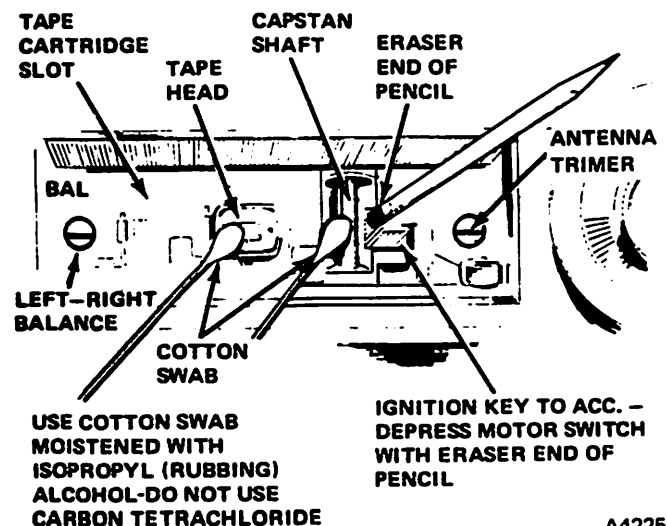

Fig. 3V-5 Tape Head and Capstan Cleaning Procedure
- **Left/Right Balance Control**—Left to right balance has been preset for equal balance and should not require adjustment. However, if adjustment is necessary the balance control adjustment screw is located in the tape cartridge slot on the left side (fig. 3V-5).